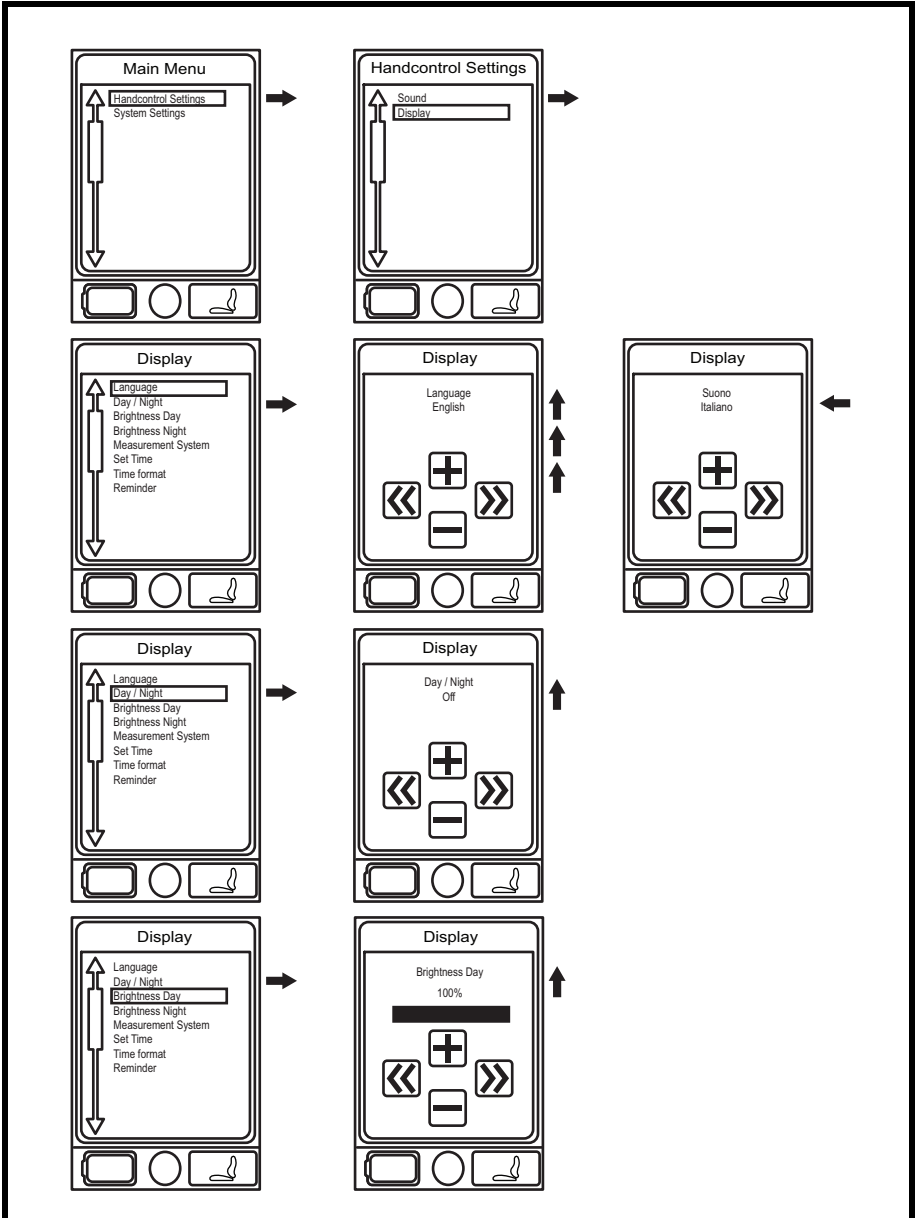

Figure 2A. Menu Screens
2. Push the Menu button to access the Main Menu screen. **See figure 2A.**
3. Use the joystick to highlight the Handcontrol Settings option, then push the joystick right to select that function. **See figure 2A.**
6. Push the joystick up until the desired language is displayed. **See figure 2A.**